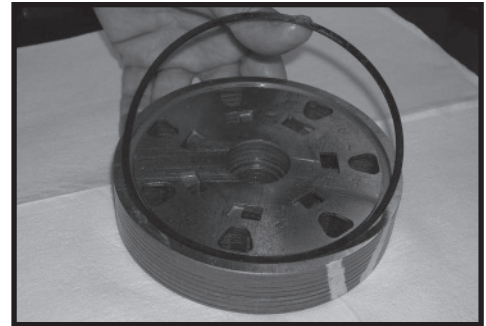
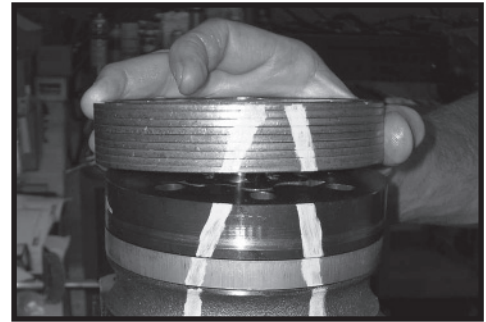

Figure 55
Figure 56
15. Apply clean grease to a **new** seal ring (4) and assemble it in the seal ring groove in the rotor set contact side of manifold (7). SEE FIGURE 55.
**NOTE:** The manifold (7) is made up of several plates bonded together permanently to form an integral component. The manifold surface that must contact the rotor set has it's series of irregular shaped cavities on the largest circumference or circle around the inside diameter. The polished impression left on the manifold by the rotor set is another indication of which surface must contact the rotor set.
16. Assemble the manifold (7) over the alignment studs and drive link (10) and onto the rotor set. Be sure the correct manifold surface is against the rotor set. SEE FIGURE 56.